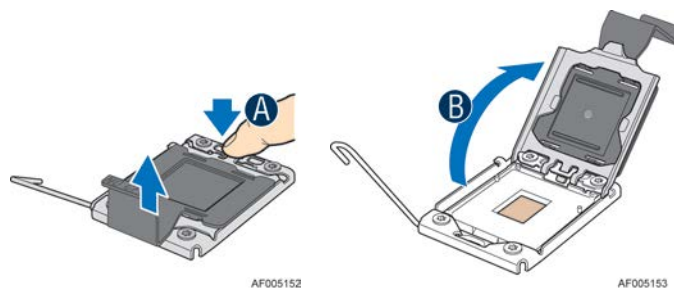

Figure 28. Installing Processor – Open the Load Plate
- Open the load plate, see Figure 28.